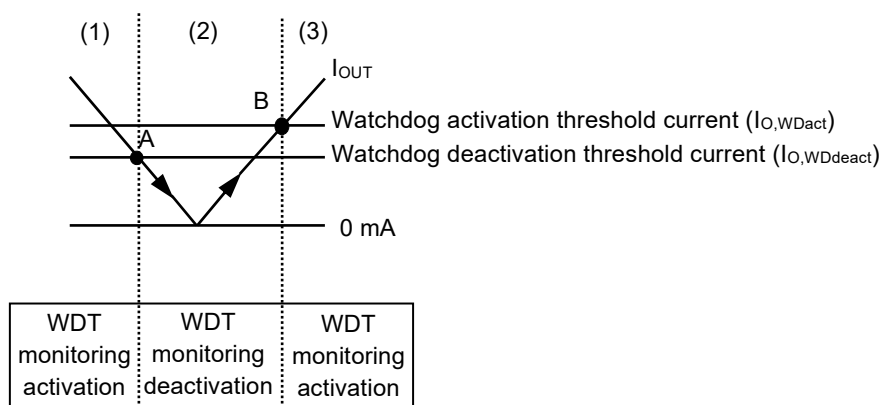

Figure 42 Autonomous Watchdog Operation Function
- (1) When I_{OUT} of the regulator is the watchdog activation threshold current ($I_{O,Wdact}$) or more, the input voltage (V_{Wdact}) of comparator (C1) is higher than the reference voltage (V_{ref}), and the output of C1 is "H". At this time, the watchdog timer activated.
- (2) When I_{OUT} decreases to the watchdog deactivation threshold current ($I_{O,Wddeact}$) (point A in **Figure 42**) or less, V_{Wdact} decreases to V_{ref} or less and the output of C1 is "L". At this time, the watchdog timer deactivates the monitoring. Even if I_{OUT} increases, the watchdog timer continues the monitoring deactivation when I_{OUT} is within less than $I_{O,Wdact}$
- (3) If I_{OUT} further increases to $I_{O,Wdact}$ (point B in **Figure 42**) or more, V_{Wdact} increases to V_{ref} or higher and the output of C1 is "H". And then, the watchdog timer initiates the monitoring activation.